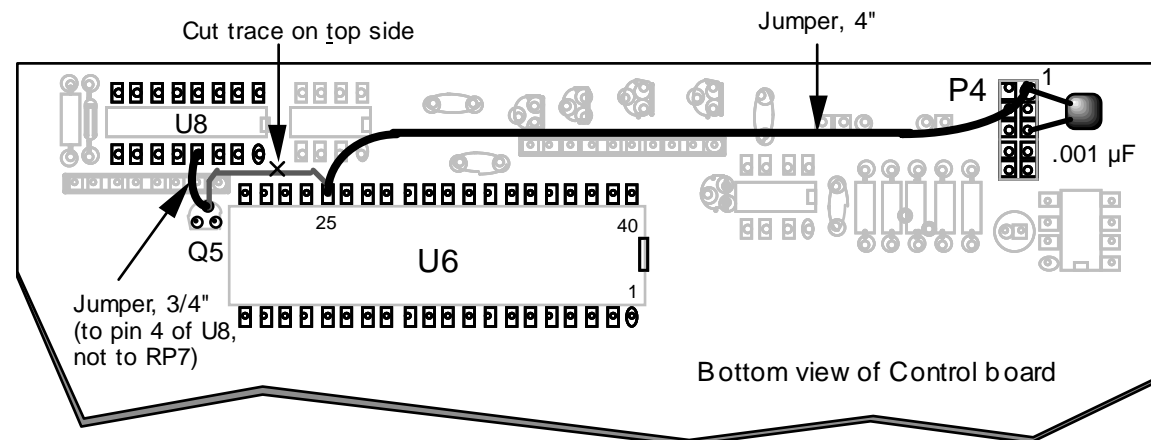

Figure 41
- Figure 41** shows the *bottom* side of the Control board, where most of the changes will be made. One trace will be cut on the *top* side.